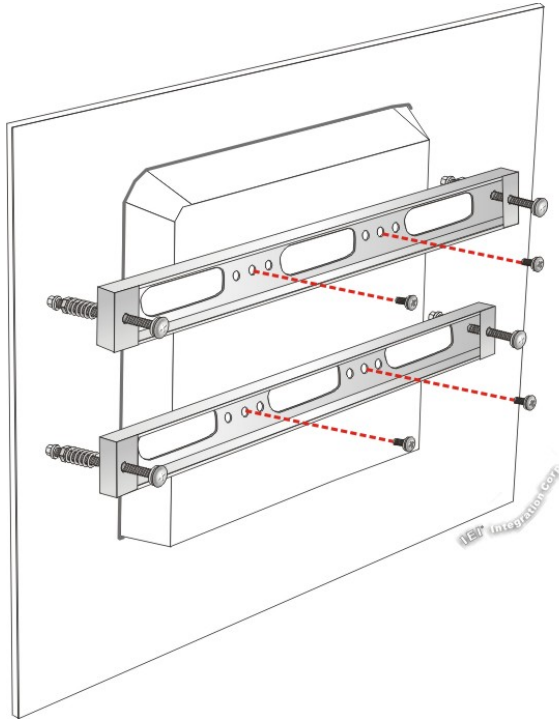

Figure 3-13: Securing Panel Mounting Brackets
Step 7: Secure the two panel mounting brackets to the rear of the panel PC by inserting the four retention screws into the VESA mounting holes and tightening them (**Figure 3-13**).